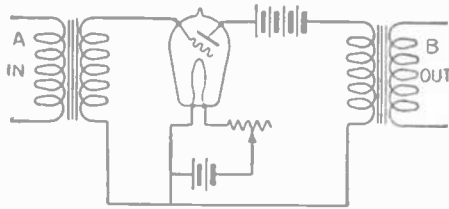
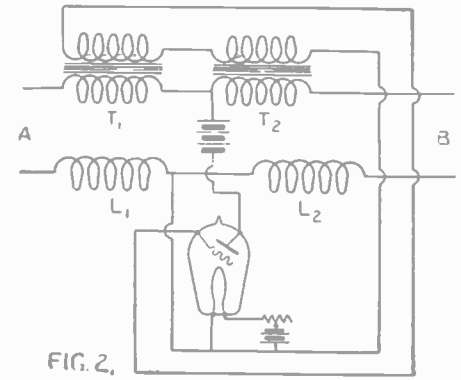

FIG. 1
FIG. 2,
A. 1. The length of wire over which audible and distinct messages can be sent is limited, and when it is desired to communicate over distances exceeding this limit, it is necessary to employ some device that will repeat or relay the message with added energy at points on the line where messages would otherwise become too weak. Fig. 1 illustrates one form of this repeater. Messages are impressed on the grid circuit of the tube and are amplified in the plate circuit and transmitted on the output side of the system. This type evidently is a "one-way" repeater, for messages can be sent in only one direction through it. In Fig. 2 a "two-way" repeater is represented. Modulations of the current from either side of the line may be impressed on the grid circuit of the vacuum tube and fed back to the line from the plate circuit. The coils (L) are inserted to balance the line which would otherwise become unbalanced by the transformers (T). Sometimes a condenser is
The roaster shown in Fig. 2 has six in-